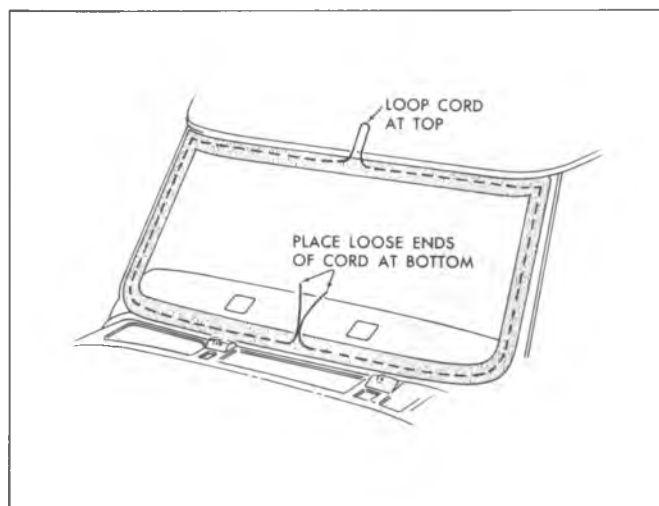

Fig. 9—Cord Installation
2. Install a cord around periphery of weatherstrip, leaving a loop at the top and the loose ends at the bottom as shown in Figure 9.